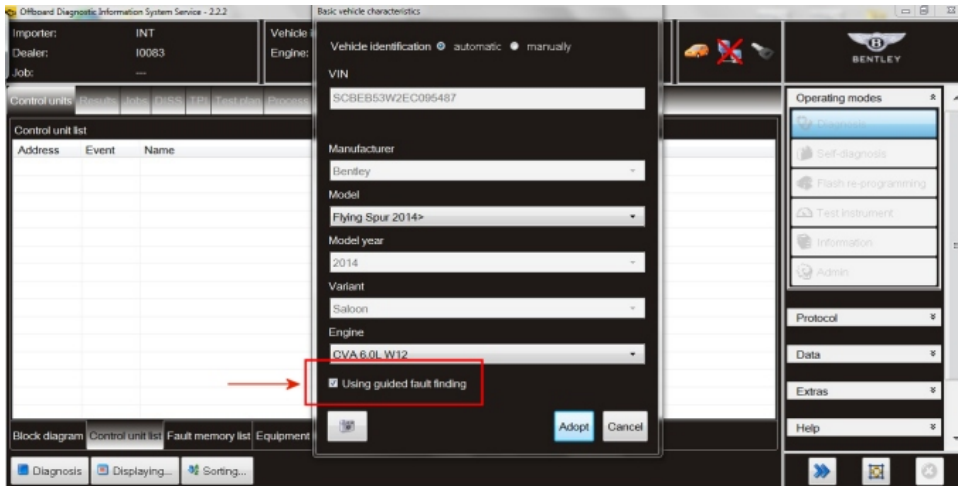

Figure 2
6. Using *guided fault finding* check and clear the vehicle of any fault codes (see Figure 2). NOTE: At this point when requested to *Make a Target/Actual comparison* do not perform this action select No